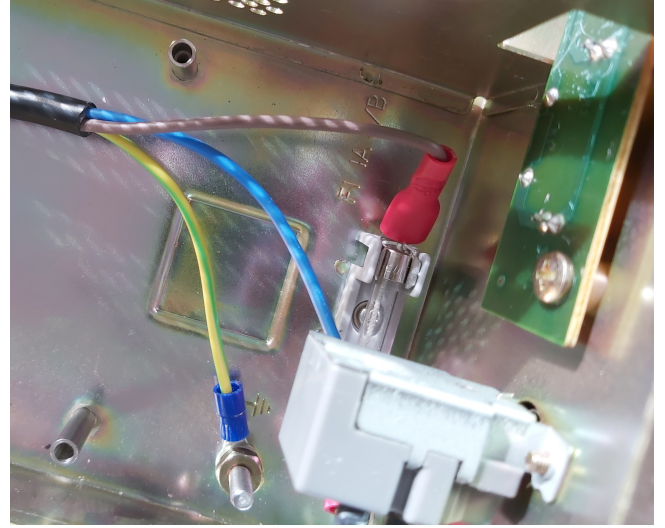

Figure 2.3: Connect the Ground (green) and Live (brown) wires.
4. Firmly push the spade connector onto the fuse holder terminal. Loop the ring connector over the vertical ‘ground’ post and secure it in place with a nut (as shown in Figure 2.3). Note that the fuse itself does *not* need to be replaced.